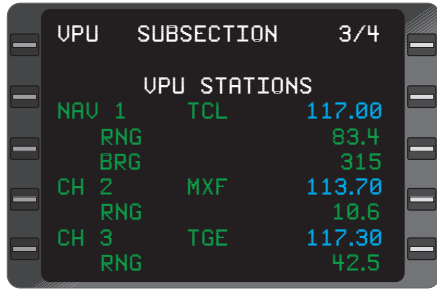

Figure 2-34
**VPU with Multiple Channel DME Inputs (Figure 2-34)**